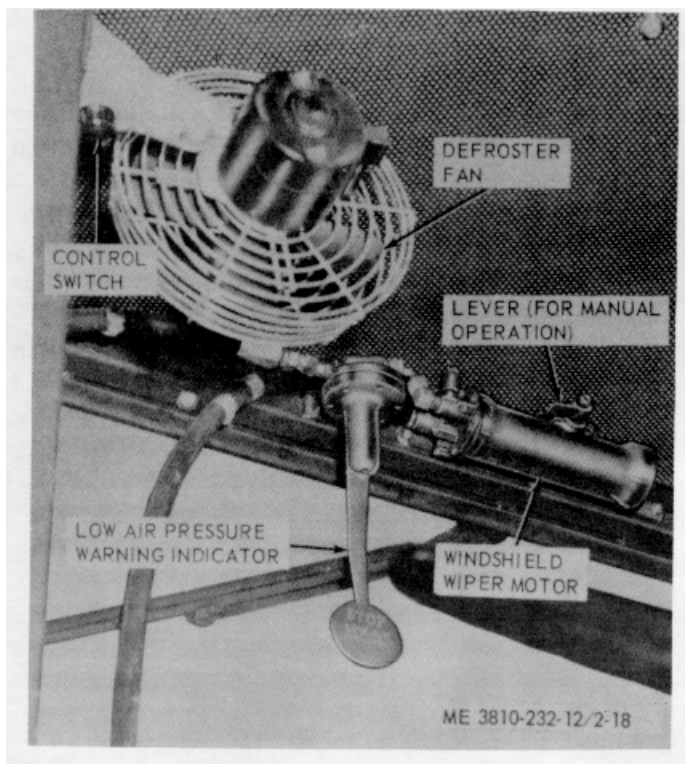

Figure 2-18. Defroster fan windshield wiper and low air pressure warning indicator (model 2385)
(1) *Manual wiper control (fig. 2-18)*. The manual windshield wiper control is located on the wiper motor at the top of the operator's cab. It is a flat lever used to actuate the wiper blade manually in event of vacuum failure.
(2) *Defroster fan (fig. 2-18)*. Located at the top left corner of the windshield. It is an electric motor driven, self-contained fan used to clear fog from the inside of the windshield. A control switch mounted on the motor mounting bracket controls operation.
(3) *Low air pressure warning indicator (fig. 2-18)*. The low pressure warning indicator is located in the operator's cab next to the wiper motor. When the air pressure drops to a low level the arm will swing back and forth. Stop operations and allow pressure to rebuild to operating pressure.